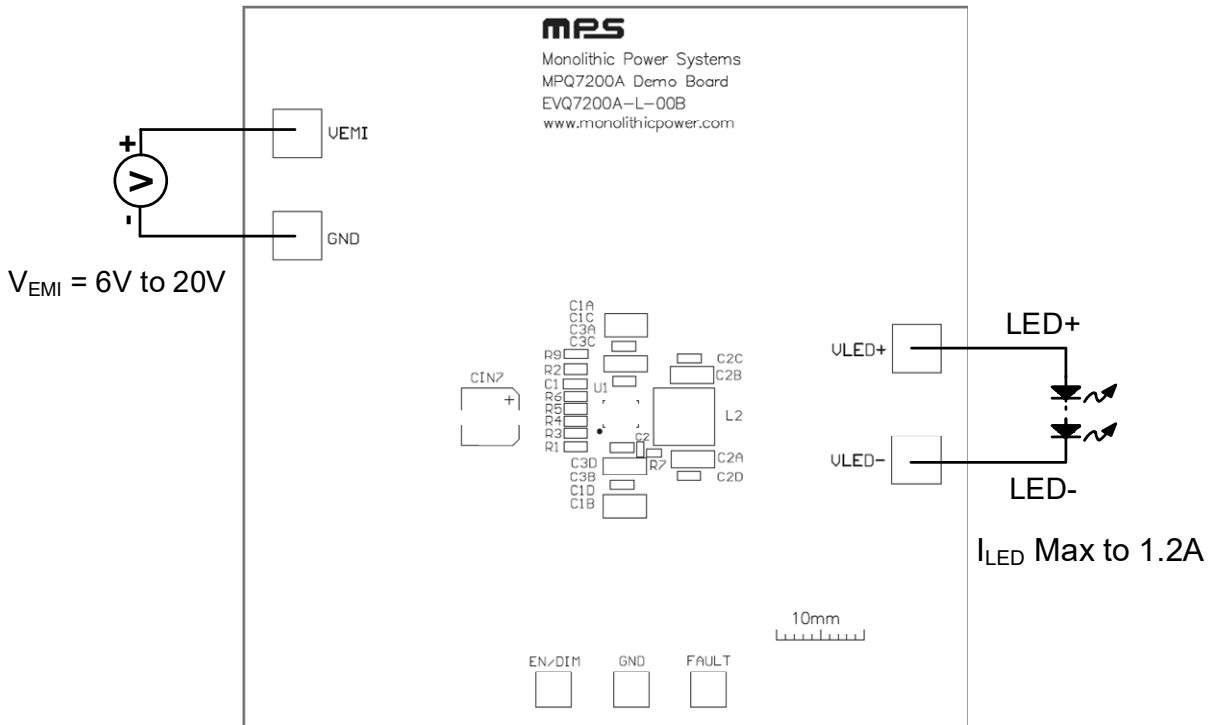

Figure 1: Measurement Equipment Set-Up
1. Preset the power supply between 6V and 20V, then turn off the power supply (see Figure 1). Note that the input voltage (V_{EMI}) plus output voltage (V_{OUT}) should be below 40V.